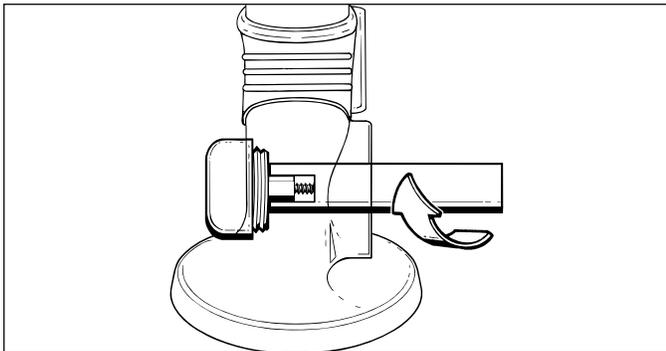

Figure 12
1.3.6 Insert the open end of the tool into the oral valve hole in the body, and pull it out through the exhaust port on the opposite side (see Fig. 12). Rotate the button assembly slightly back and forth as needed to seat the cover inside the body. While pressing the button inward, turn the tool clockwise to engage the threads, and tighten the bezel into the body until finger snug.